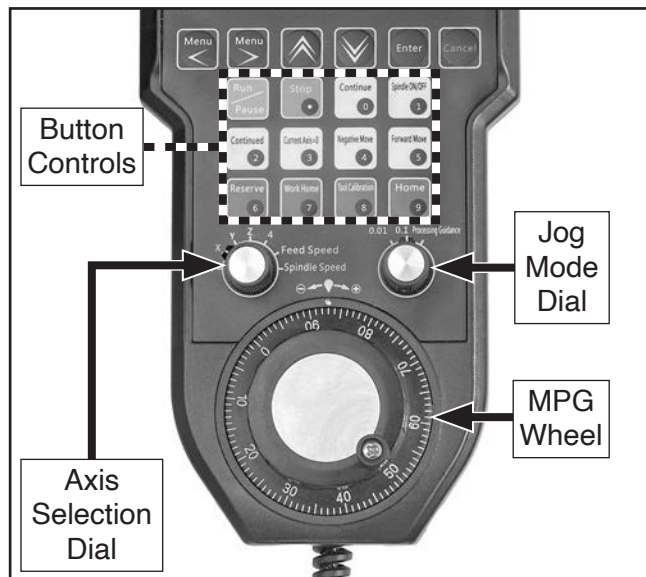

Figure 46. Location of axis movement controls.
The Model G0403 uses button controls, axis selection dial, jog mode dial, and MPG wheel on the DSP controller to move axes (see **Figure 46**).
3. Rotate axis selection dial on DSP controller to desired axis, then rotate jog mode dial to "0.1" mode setting (see **Figure 46**).
4. Press and hold one of the enable buttons on either side of DSP controller, then rotate MPG wheel (see **Figure 46**) in direction of desired axis movement:
2. Press "Forward Move" or "Negative Move" buttons (see **Figure 46**) to jog selected axis one step in selected direction.
Note: Hold "Continued" button while pressing either "Forward Move" or "Negative Move" buttons (see **Figure 46**) to move selected axis continuously in selected direction.